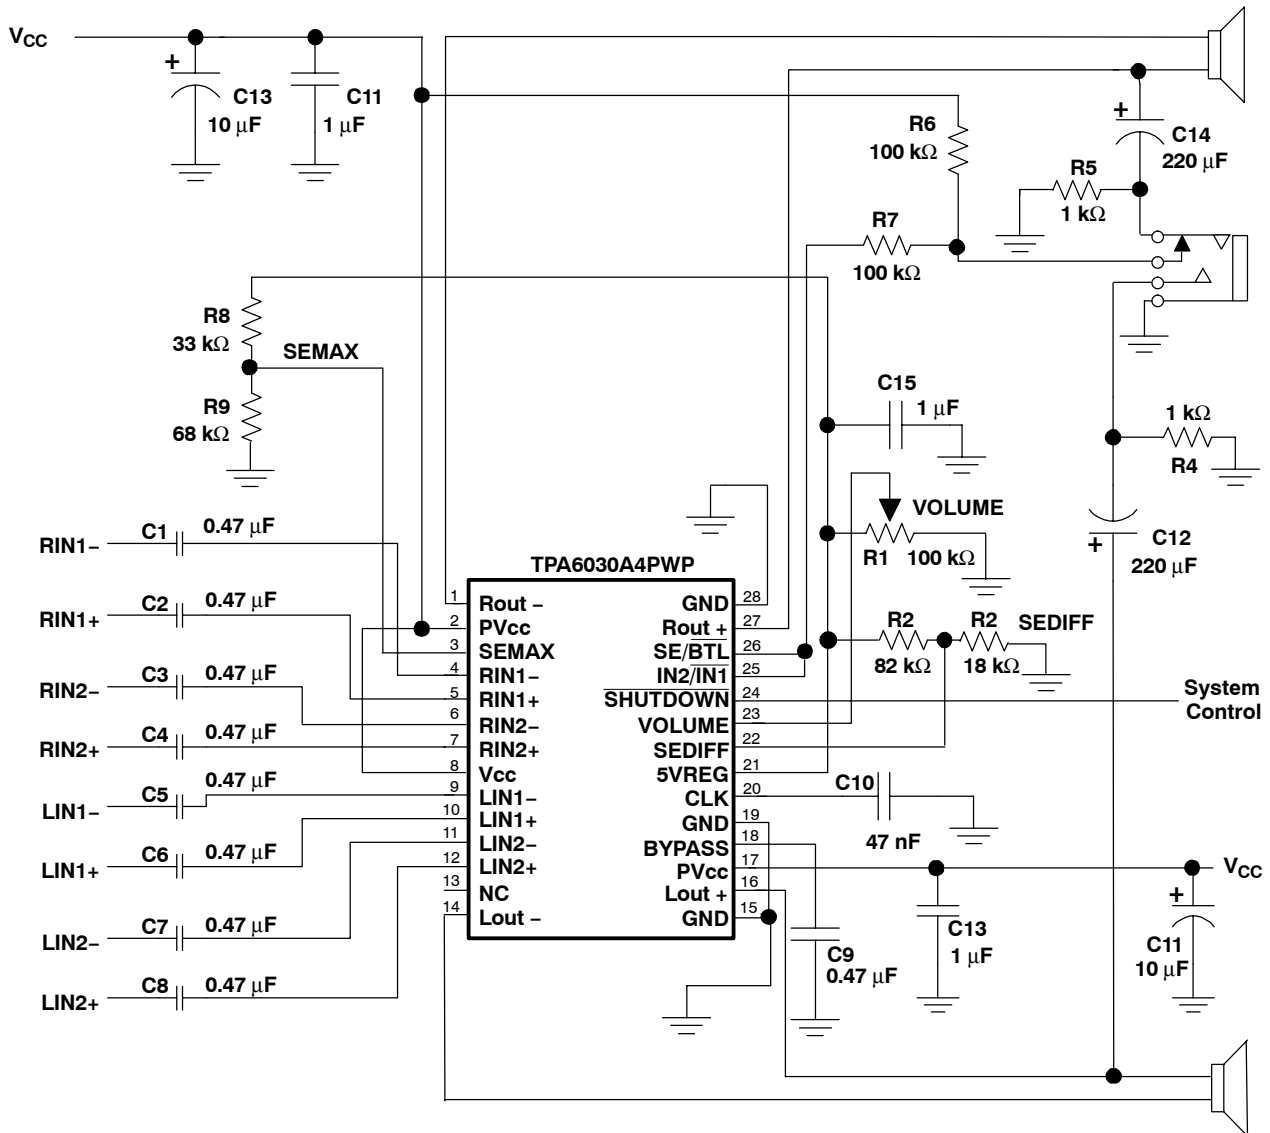

Figure 22. Typical Application Circuit for an LCD Monitor
The circuit shown in Figure 22 automatically switches between headphone outputs and speaker outputs when a headphone plug is inserted or removed from the headphone jack. Additionally, this circuit uses resistor divider networks to limit the headphone volume. Resistors R8 and R9 form a divider network that applies 67% of 5VREF to the SEMAX pin, which results in a maximum output of 7.2 dB. Resistors R2 and R3 form a divider network that applies 18% of 5VREF to the SEDIFF pin.
Using a readily available 1/8-in. (3,5 mm) stereo headphone jack, the control switch is closed when no plug is inserted. When closed, the parallel combination of R5 and R7 (see Figure 22) pulls the SE/BTL pin low(1), causing the device to operate in BTL mode. When a plug is inserted, the 1-k $\Omega$  resistor is disconnected and the SE/BTL input is pulled high(1). When the input goes high(1), the negative output amplifiers go into a state of high impedance, essentially open circuiting the speaker. The positive output amplifiers then drive through the output capacitor (CO) into the headphone jack.
In some applications, it may be desirable to have one input specifically for BTL operation and one input specifically for SE operation. This is accomplished by tying the SE/BTL and IN2/IN1 pins together and connecting them to a common control voltage. An example of this type of configuration can be found in Figure 22. The two pins are tied together and are connected to the resistor divider network. That network is connected to the stereo headphone jack, and is closed when no plug is inserted. This pulls both the IN2/IN1 and SE/BTL pins low, causing the amplifier to go into BTL mode using the IN1 (RIN1 and LIN1) inputs. Should a headphone plug be inserted into the headphone jack, both inputs would be pulled high, and the amplifier would be in SE mode using the IN2 inputs.